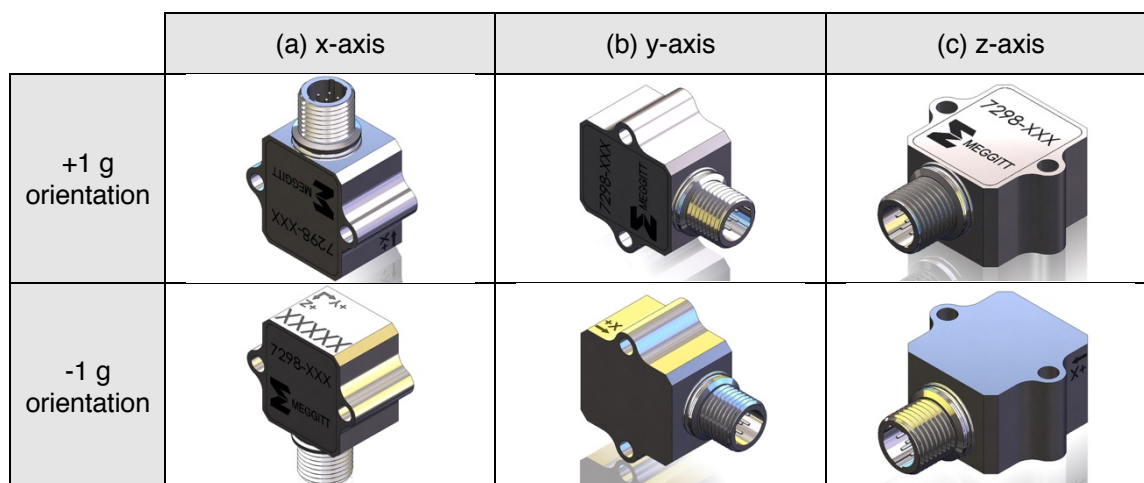

Figure 1. Orientations for 2g turnover testing of the (a) x-axis, (b) y-axis and (c) z-axis.
direction for each axis. Refer to Figure 1 for an illustration of the various orientations needed during the three 2g turnover tests to be performed.
- a. Orient the unit in the x-axis positive 1g position (per Fig. 1) and record the output voltage on the x-axis output lead (green) with reference to the 2.5V reference lead (white/green).
- b. Orient the unit in the x-axis negative 1g position (per Fig. 1) and record the output voltage on the x-axis output lead (green) with reference to the 2.5V reference lead (white/green).